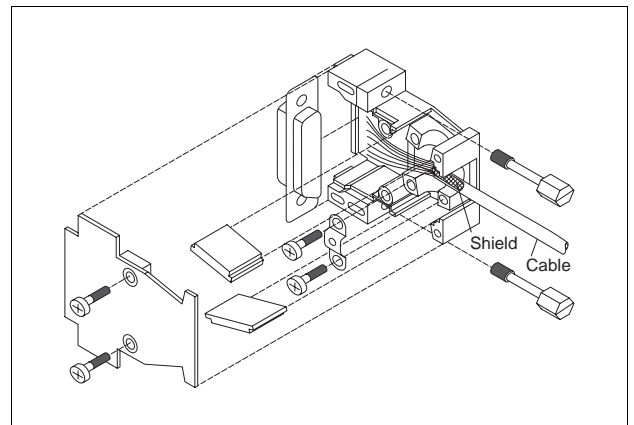

Fig. 2-16 Interface connector assembly
3. Screw two hexagon head bolts (fig. 2-16) into the connector shell.